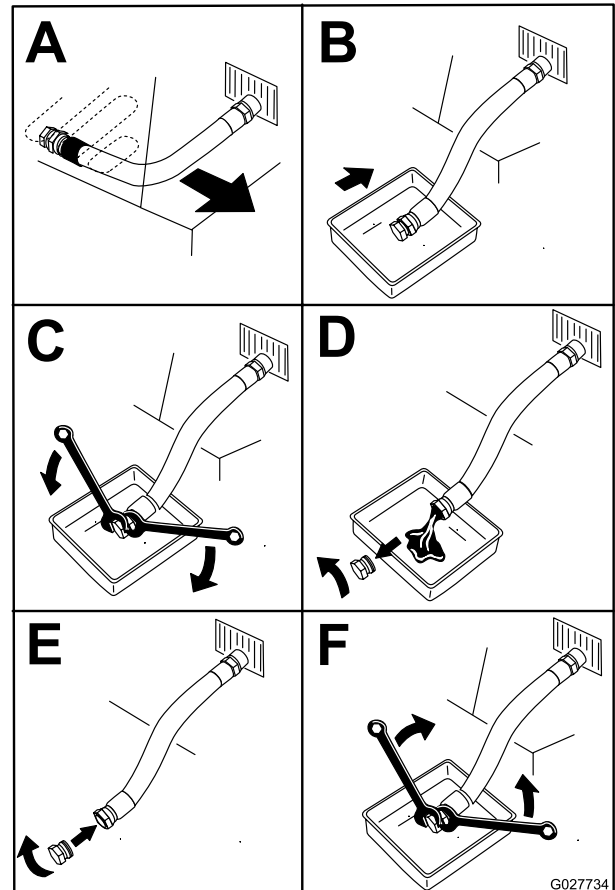

Figure 57
5. Drain the oil from the engine (Figure 57).